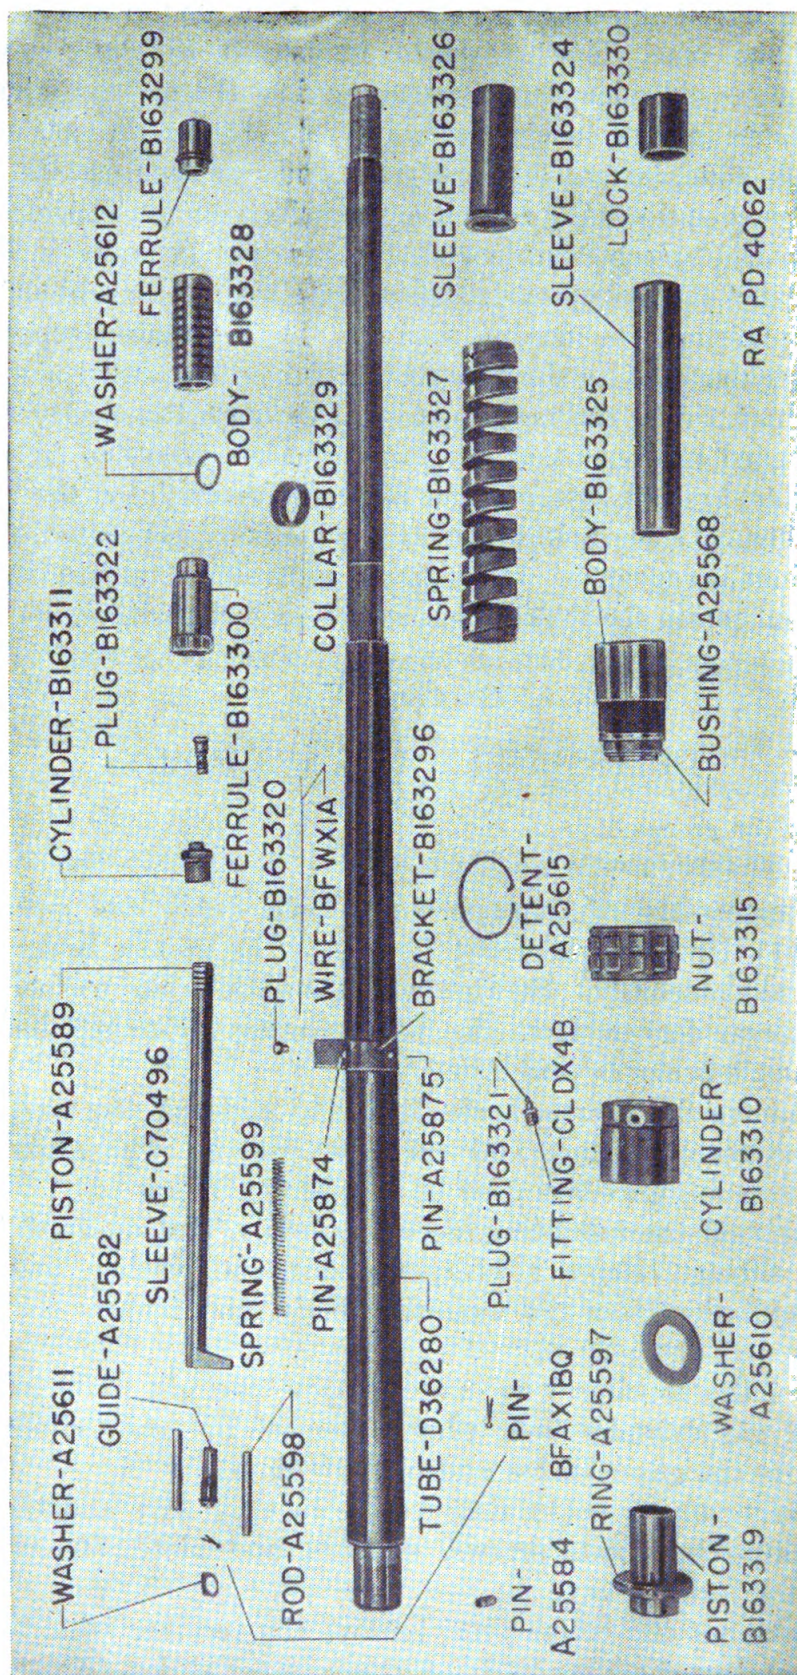
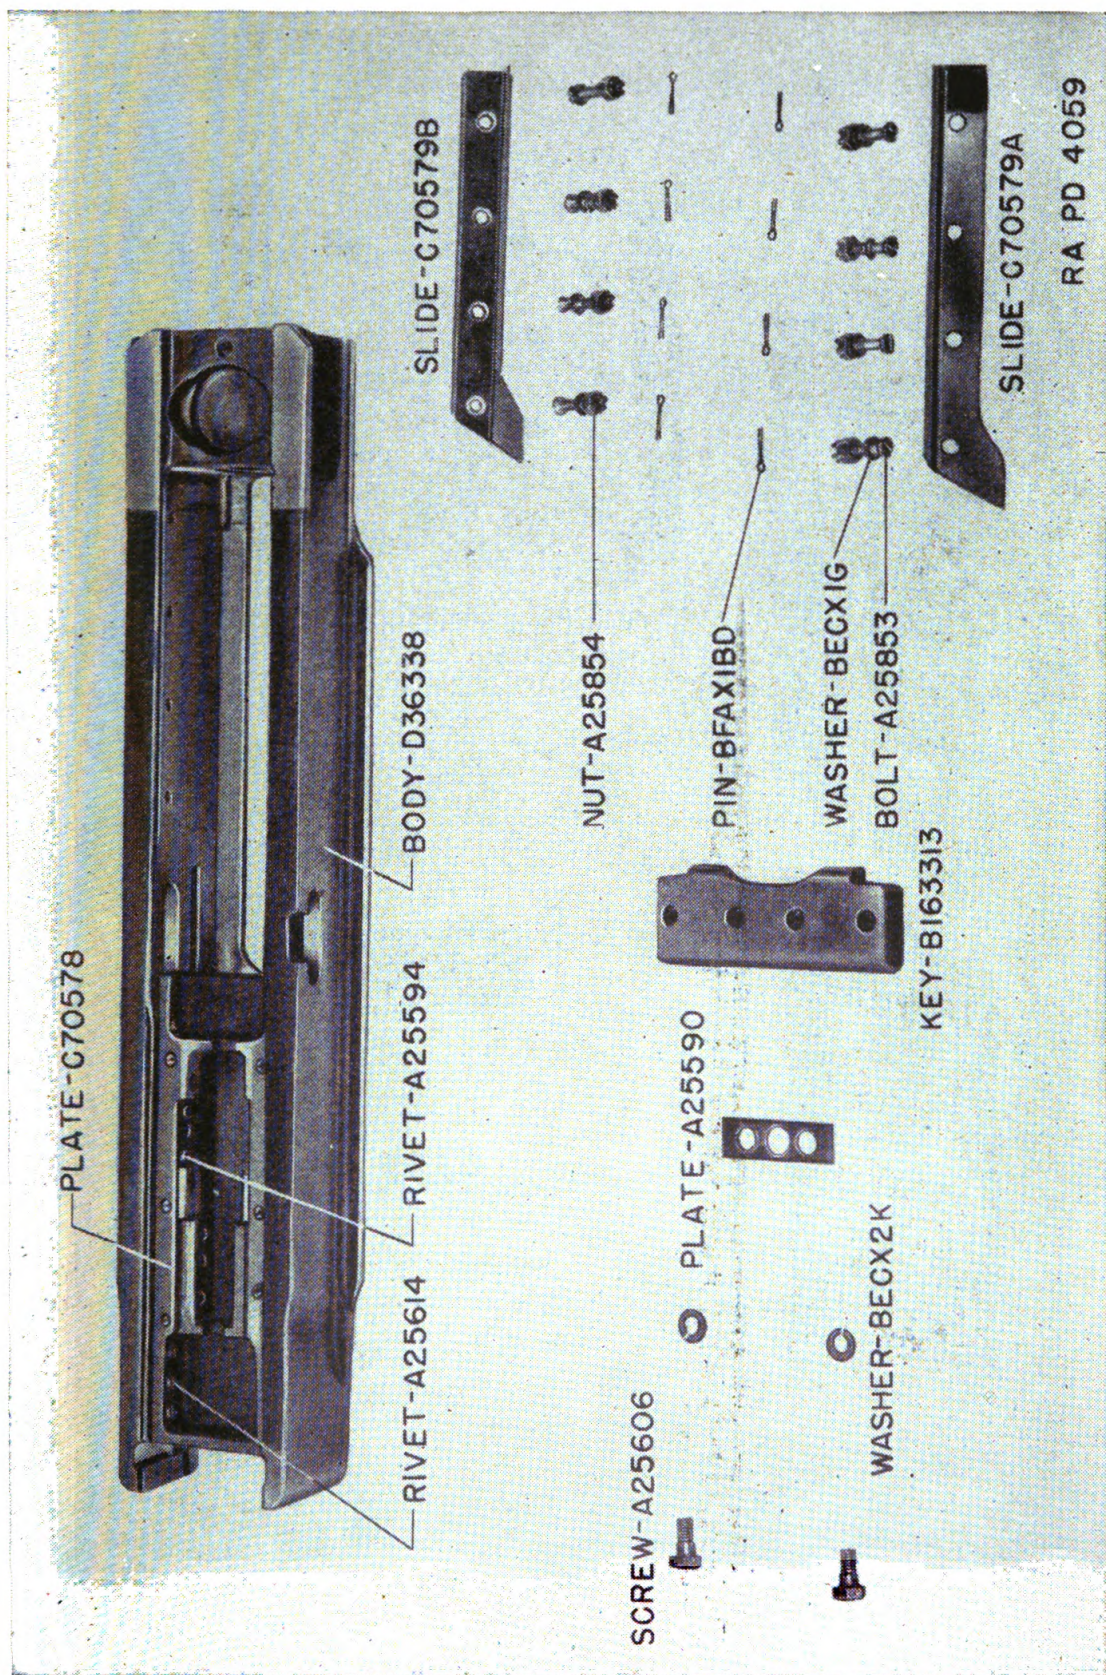

FIGURE 8.—20-mm automatic gun M2, barrel, muzzle brake, and gas cylinder group parts with locking collar.
FIGURE 9.—20-mm automatic gun M2, receiver group parts.
(2) Remove the muzzle brake lock and slide off the recoil spring sleeve, the recoil spring, and the filler sleeve. The muzzle brake collar shown in figure 9 is used on a different mount only.
(3) Slide off the mounting sleeve assembly, and unscrew the plug with the fitting. Remove dashpot piston and washer, unscrew the dashpot cylinder from the mounting body, and remove the nut and detent.
(4) Cut the locking wire and unscrew the gas cylinder bracket plug and gas cylinder vent plug. Retract the gas cylinder sleeve and remove the gas cylinder and piston (fig. 8).
b. Receiver group.—(1) Remove the locking wire and the breechblock locking key plate screws, washers, and plate. Drive out the breechblock locking key.
the M1 gun, remove the locking wires, unscrew the slide bolts, with the nuts, and lift off the slides (figs. 9 and 10).